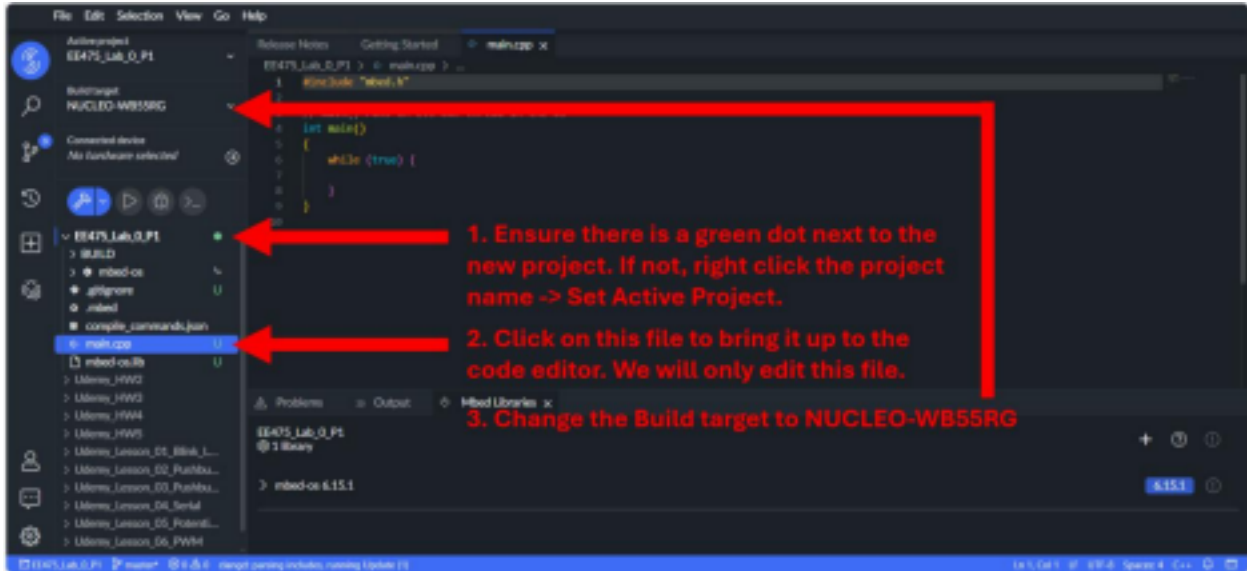

Figure 11
- Follow the instructions in Figure 11 to ensure the new project is set to the active project. Set the Build target to NUCLEO-WB55RG.